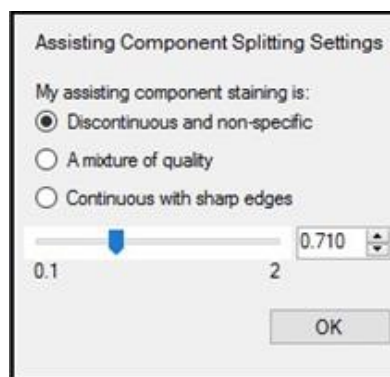

FIGURE 13.8. Assisting Component Splitting Settings dialog box.
1. Click the “...” button to open the Assisting Component Splitting Settings dialog box. (See Figure 13.8.)